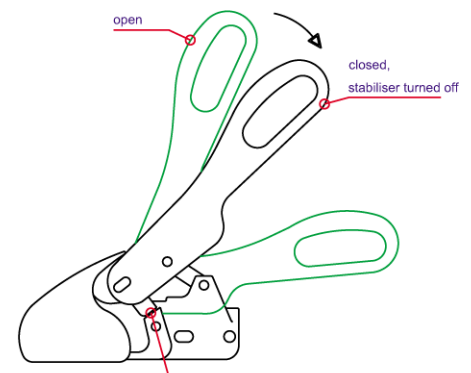
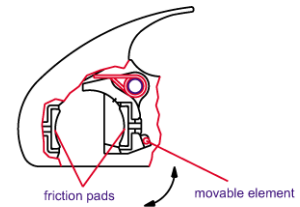

Fig. 4: coupling
Fig. 8: arrangement of the friction pads
The opened ball coupling is placed on the coupling ball of the towing vehicle (Fig.4).
The support load and possible additional loading of the drawbar serves to cause the ball coupling to close automatically and the side securing lugs (1) are parallel in relation to the securing surfaces on the housing (Fig. 4).
If not used for any lengthy period of time, the trailer should be parked with the ball coupling closed. For this purpose, lift up the open operating lever (Fig. 4) and at the same time pull the ball socket (movable element with friction pad – Fig. 8) forward or press the **safety ball** into the ball space and slowly close the operating lever.
The interior of the ball coupling in the area of the friction pads is to be kept clean (Fig. 8). If the friction pads are dirty, the surface can be cleaned using emery cloth, grain size 200 – 240. Subsequently clean the surface with benzine or spirit. All movable bearings and bolts must be slightly oiled. Regular maintenance and care will serve to improve the service life, function and safe use of your WS 3000 ball coupling.